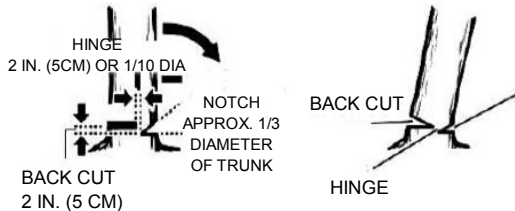

FIG. 22
**WARNING:** Never cut through to the notch when making a back-cut. The hinge controls the fall of the tree, this is a section of wood between the notch and back-cut.(Fig. 22)